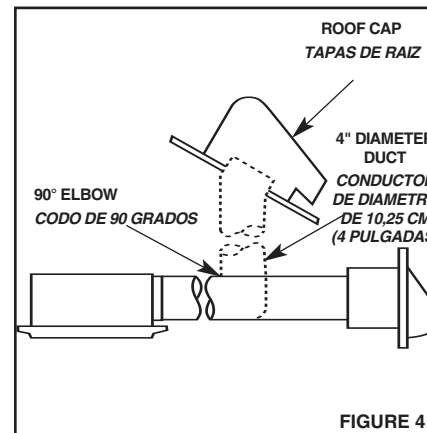

FIGURE 4
2. **Refer to Figure 4.** Run 4" round duct from outside to fan's discharge opening.
WIRING AND DUCTING: Refer to Figures 5 and 6 for wiring and to Figure 4 for ducting. Plan ducting and wiring before proceeding with installation.